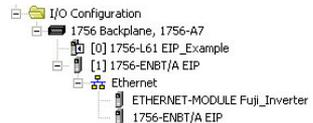

Figure 86: I/O Configuration Tree
- 6) After adding the I/O Module to the configuration, the full I/O Configuration tree should appear similar to Figure 86.